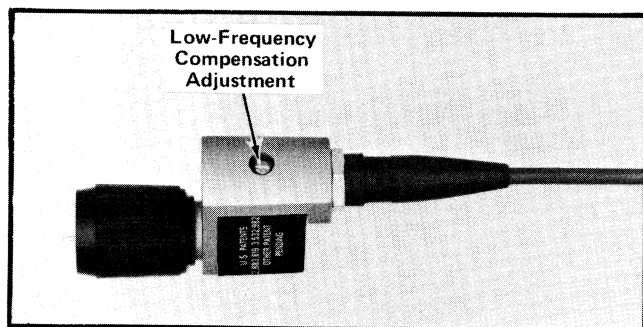
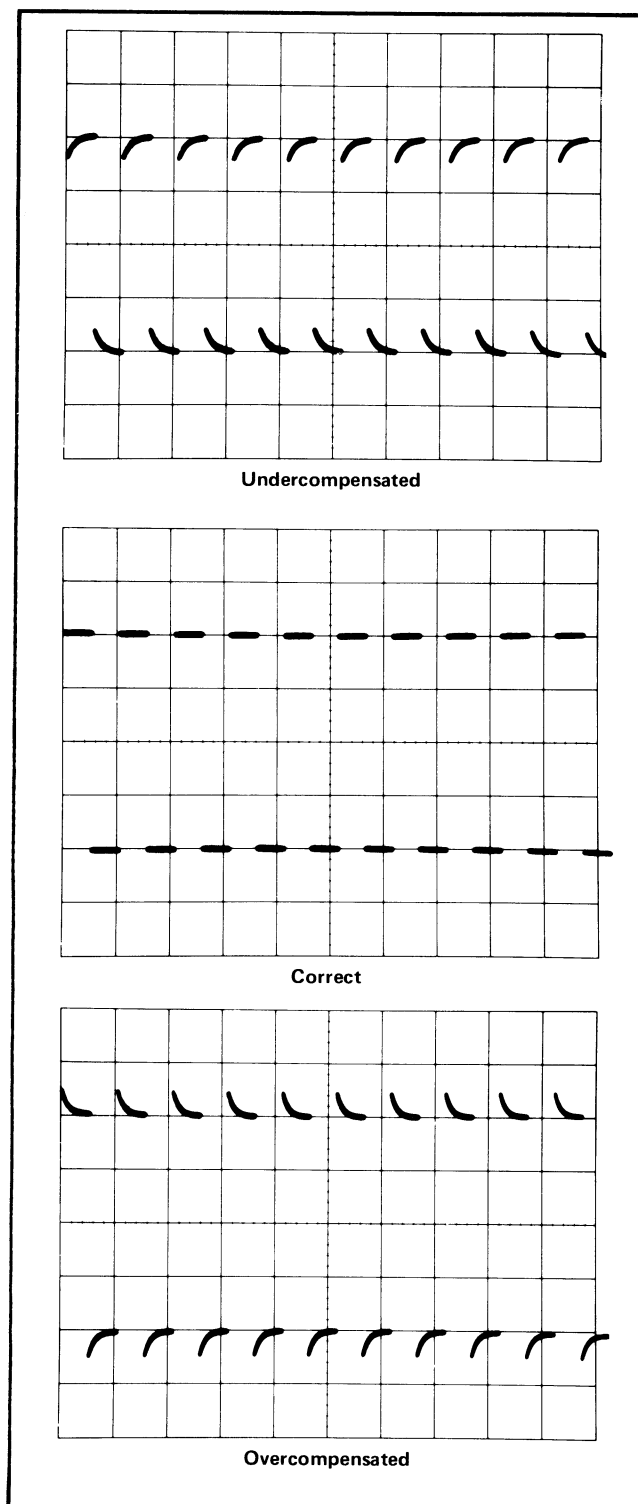

Fig. 7. Location of probe low-frequency compensation adjustment.
Fig. 8. Probe low-frequency compensation.
c. Adjust the probe compensation (C8, see Fig. 7) for optimum flat top on the square wave. Fig. 8 illustrates the correct and incorrect settings of the adjustment.